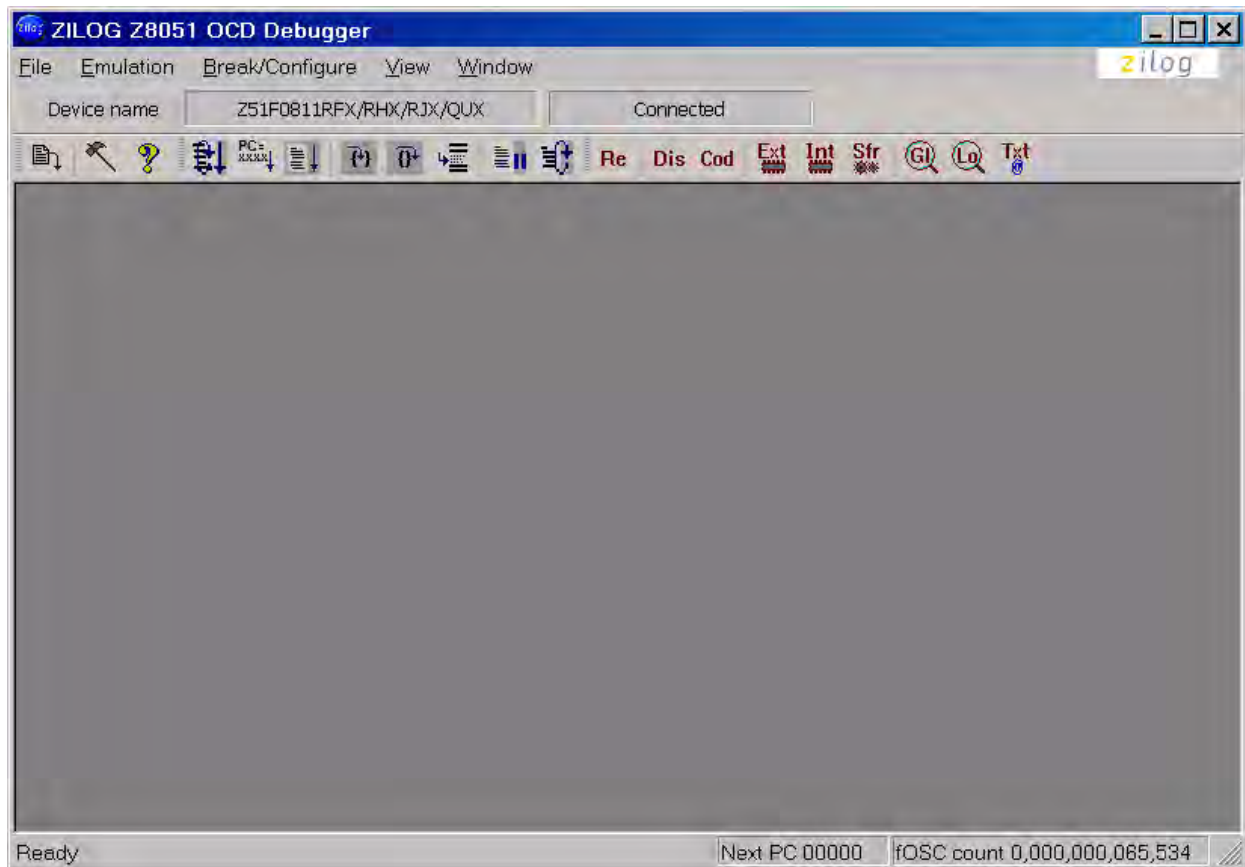
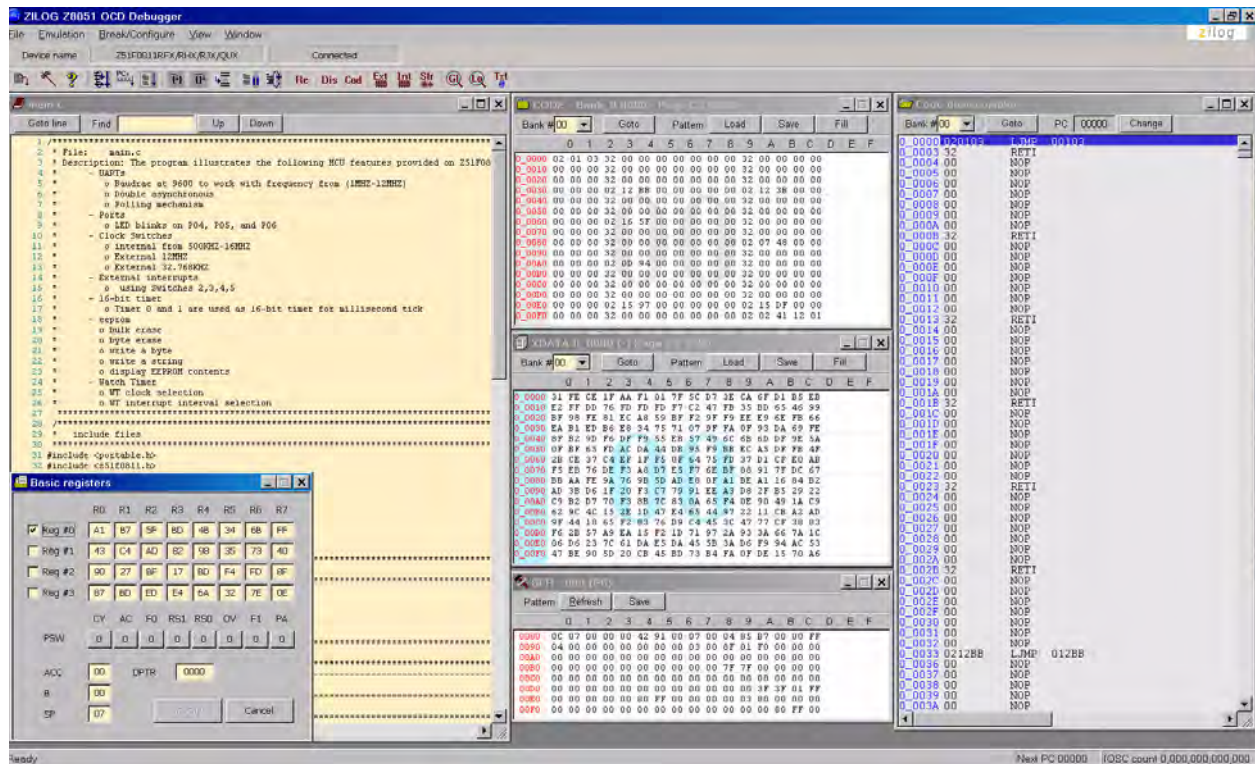

Figure 13. A Typical On-Chip Debugger Window
Figure 14. A Typical On-Chip Debugger with Child Windows Open
- Click the **Write** button to open the On-Chip Debugger's main window. A typical OCD display is shown in Figure 13; Figure 14 shows an OCD window with child windows open.